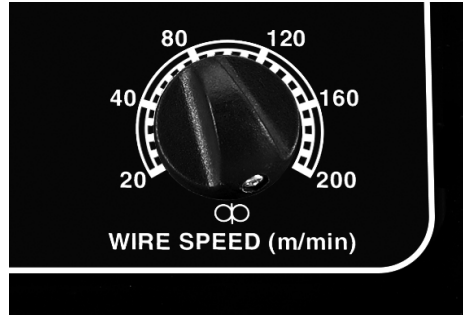

FIG.14
9.2 MIG WIRE SPEED ADJUSTMENT- FIG. 14